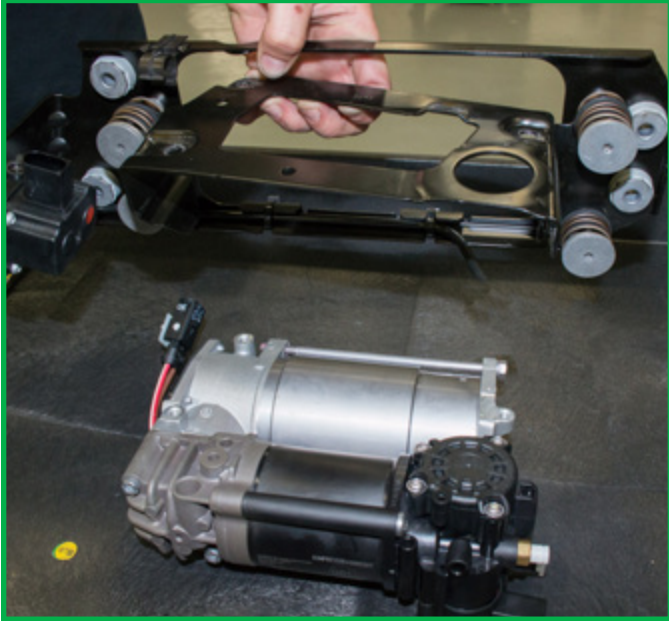

FIGURE 15
1. Install mounting bracket on the new air compressor using the hardware provided. (Figures 15, 16)